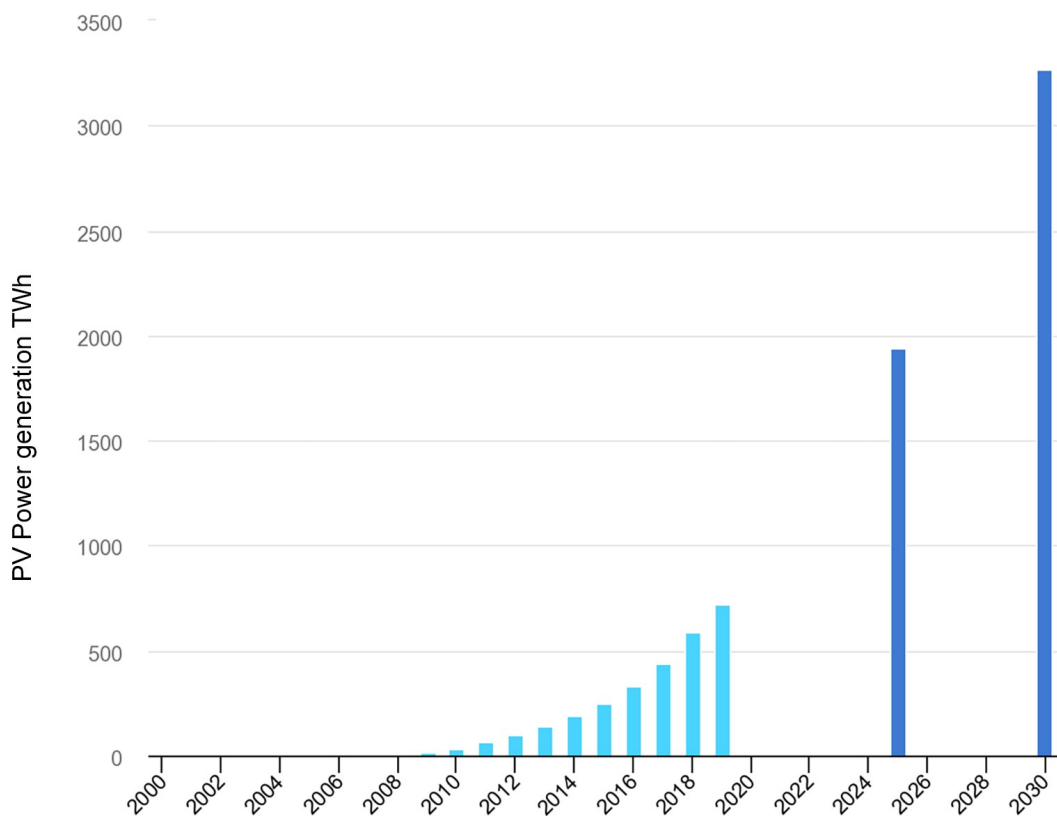

Figure 1: Solar PV power generation in the Sustainable Development Scenario, 2000-2030, source IEA, Paris. [2]
Of course, there is a range of renewable energy options, from geothermal to wind, hydro, biogas, tidal and solar. All have their challenges, whether in capital costs in hydro and wind, or pollutant emissions in biogas, or continuity of supply with wind and solar. However, photovoltaic (PV) arrays are attractive for their decreasing capital cost and ease of scalability from domestic to utility installations. If the continuity problem can be resolved with an energy storage system, then solar is a strong contender for future energy supply. Even though solar will always share the renewable energy market with other sources, growth in the industry has been strong and is predicted to increase exponentially (Figure 1).